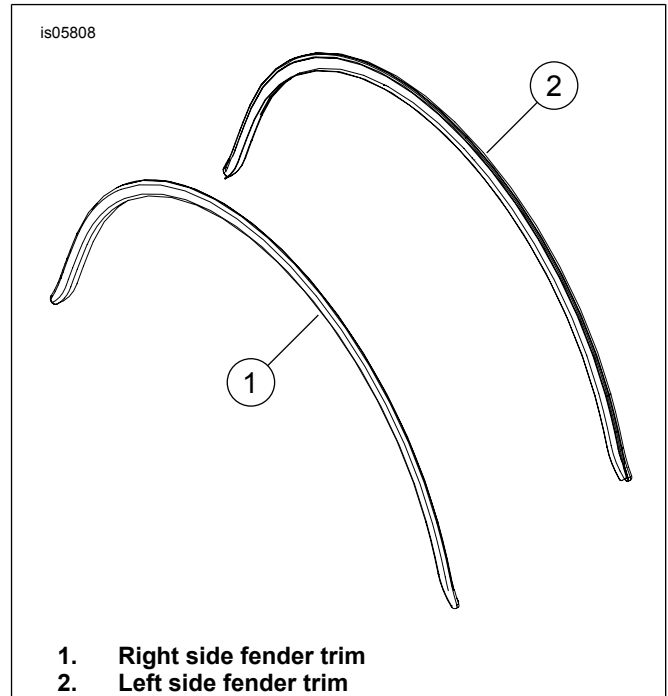

Figure 1. FLHTCUTG FENDER TRIM
2. See Figure 1. Get the left side fender trim (2). It is marked with the word "Left".
12. Repeat steps 1-11 for the right side trim (1).